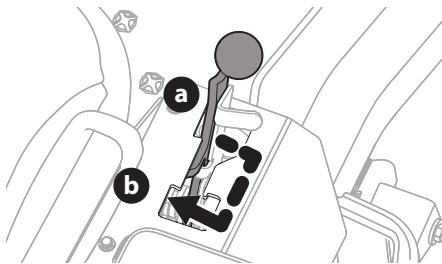

Figure 21
3. Engage the parking brake by placing drive control pedals in neutral, pushing the park brake lever to the right out of the "off" position (a) and pulling the lever back until it locks into the "on" position (b) (Figure 21).